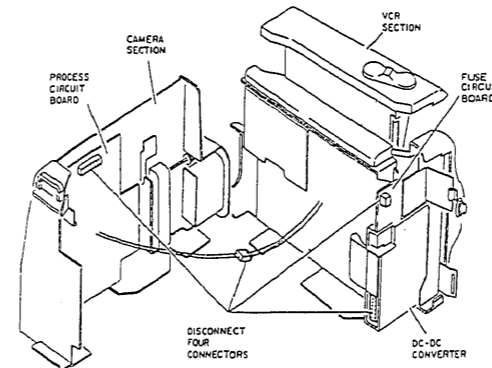

Fig. 3-5
- (8) Disconnect four (4) connectors (CN093, CN903, CN051, CN001) on the DC-DC converter, process circuit board and fuse circuit board. (See Fig. 3-5)